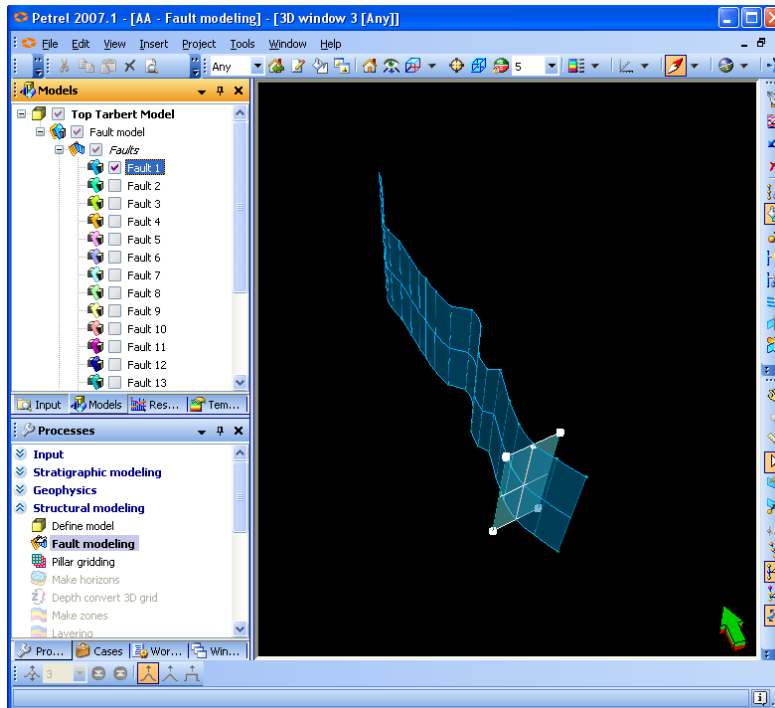

Fig. 11.21: A fault displayed in a 3D window after creating **Crossing fault**
3. Or click on the **New Crossing Fault** icon to generate a new fault, as shown in Fig. 11.21.